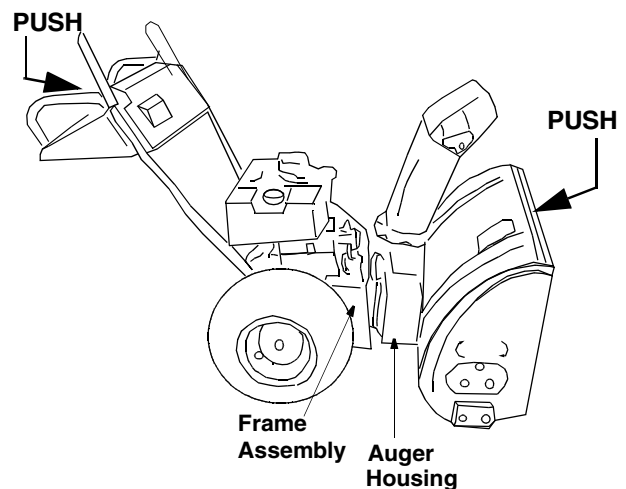

Figure 19
- While lifting up on the handles, bring the frame assembly close to the auger housing, and place the two belts on the front and rear engine pulleys. See Figure 19.